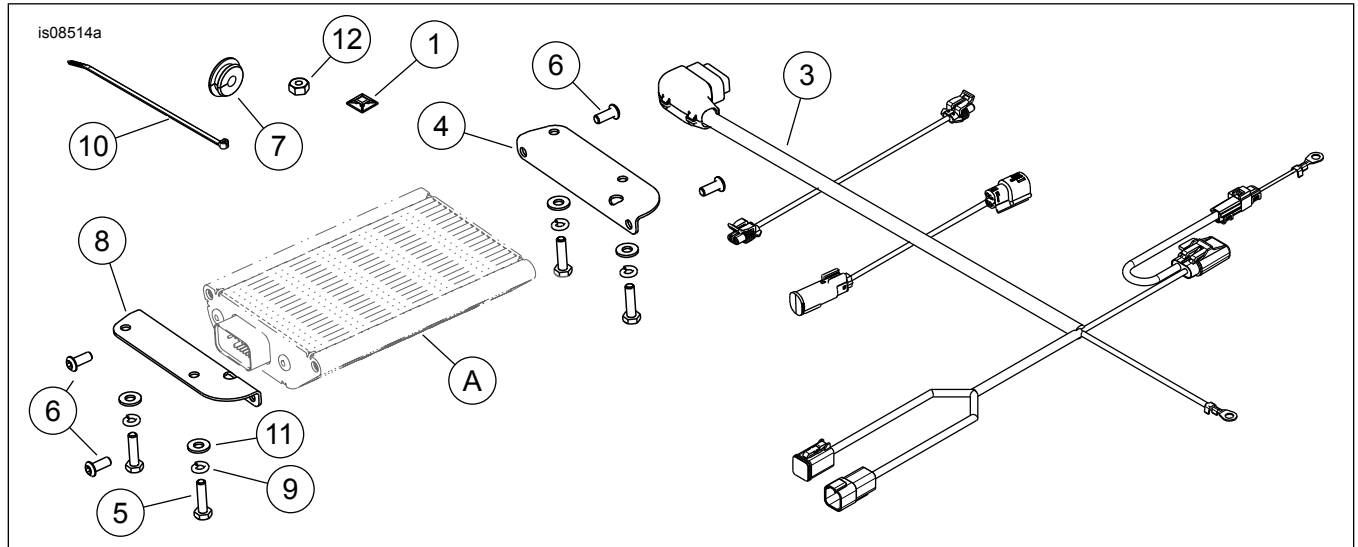

Figure 5. Service Parts, Amplifier Installation Kit
See Figure 5 and Table 1.
1. Clean the capacity label inside the Tour-Pak with a 50-50 mixture of isopropyl alcohol and distilled water. See Figure 5. Apply the **new** capacity label (2) from the kit to cover the original label. Note the revised load limit due to the amplifier installation.
2. Install the brackets (4 and 8) to amplifier (A) with screws (6). Alternately tighten screws.
*These holes are for leads [36TB] and [37TB] of the amplifier harness ( Figure 5, Item 3), which connect during installation of the Boom! Audio Stage II Tour-Pak Speaker Kit.*